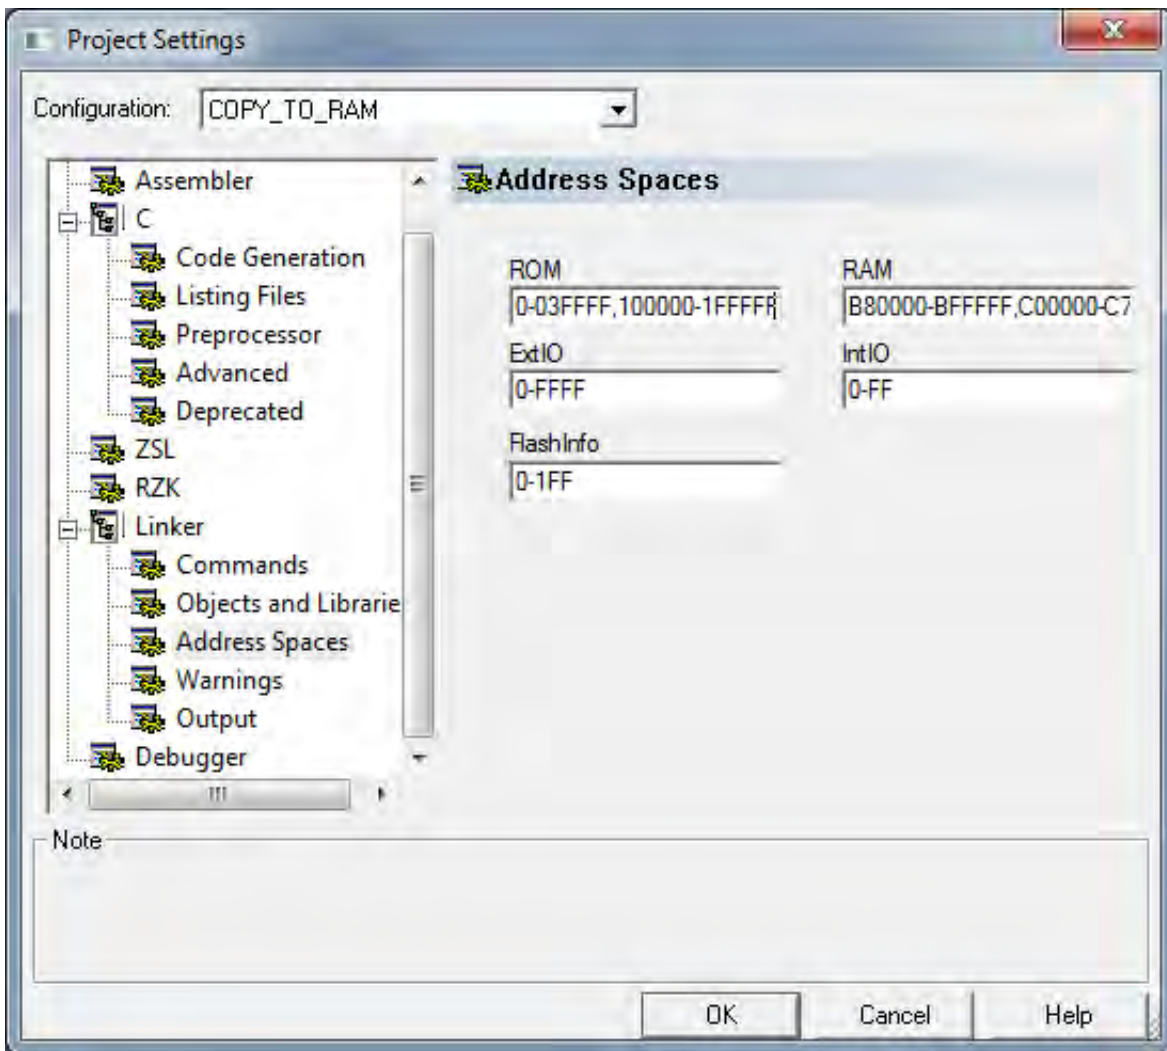

Figure 6. Copy to RAM Build Configuration: Recommended Address Space Settings
5. When configuring Copy to RAM build configurations using the eZ80F91x150MODG Module with the eZ80F91 Development Board, the recommended settings in the Address Spaces selection of the Project Settings dialog are shown in Figure 6. Ensure that your project's settings match the values displayed in this figure.